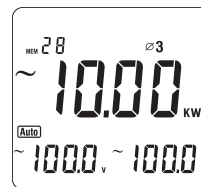

Figure 11
- After sum up the current power measurement value of the second phase, then press **SELECT** again to choose the third phase  $\Phi 3$ , as figure 11.
- After sum up the current power measurement value of the second phase, then press **SELECT** again to choose the third phase  $\varnothing 3$ , as figure 11.